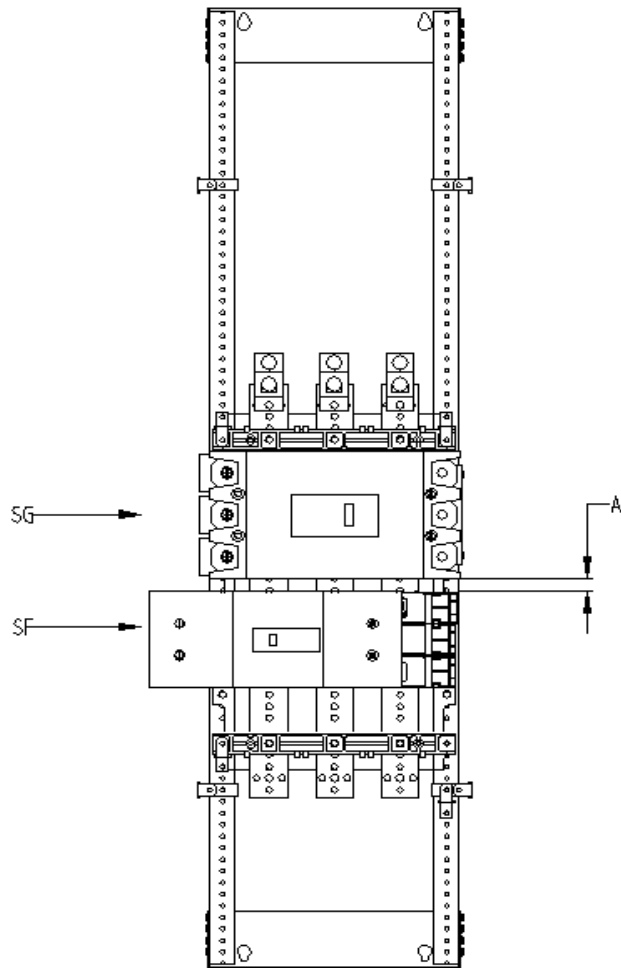

Figure 5. Distance between breakers
14. If SF breaker has to be installed after SG as shown in Figure 5 then gap between the breakers (dim A) has to be followed as mentioned in Table 2. Replace the subsequent blank filler of dead front with SF filler plate given in kit ASPP6SF3S using steps 10 to 13.